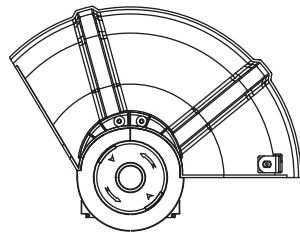

Fig. 3
1. Place the tool on its back on a clean work surface (Fig. 3).